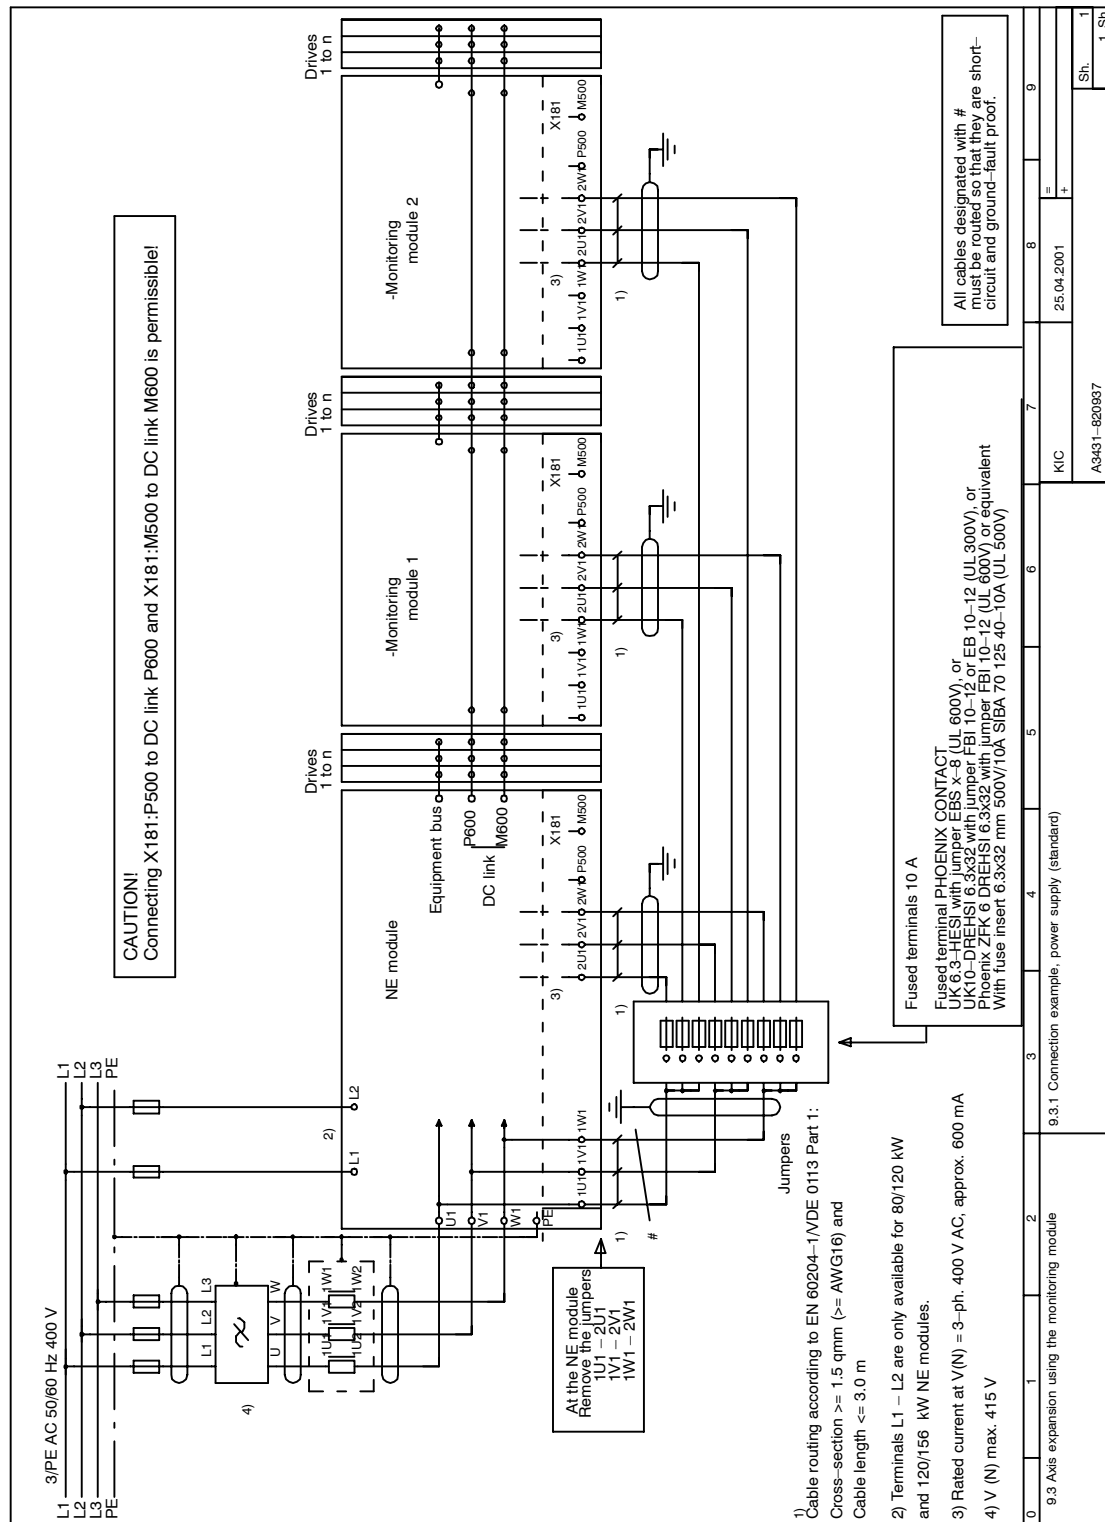

Fig. 8-6 Connection example, power supply (standard)
- Connection example, power supply (standard) —> refer to Fig. 8-6.